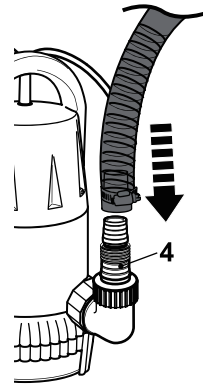

Fig. 3
- > Attach a suitable hose / pipe to the connector (4) and secure it with suitable fixation material (Fig. 3).